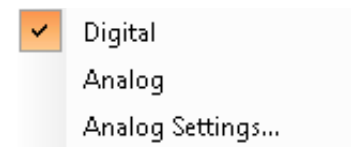

Figure 4-6: Analog Settings Dialog Box
- **Analog Settings:** Figure 4-6, page 73 shows the Analog Settings dialog box with the settings for analog waveform drawing.